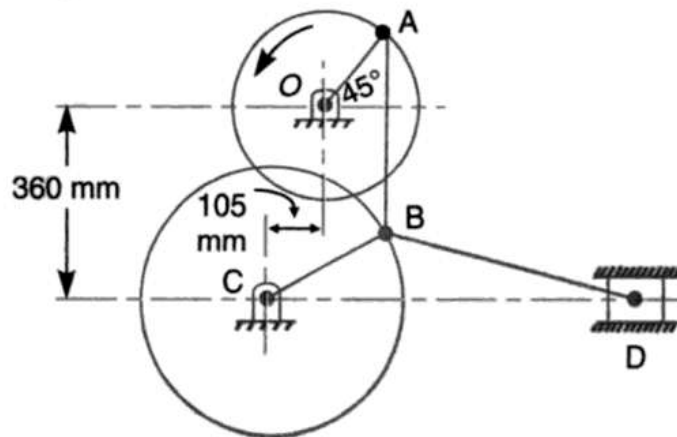

Fig. 1
2. (A) The mechanism, as shown in Fig. 1 the slider D is constrained to move on a horizontal path. The crank OA is rotating in the counter clockwise direction at a speed of 180 r.p.m. The dimensions of various links are as follows: OA = 180 mm; CB= 240 mm; AB = 360 mm; and BD = 540 mm. For the given configuration, find: